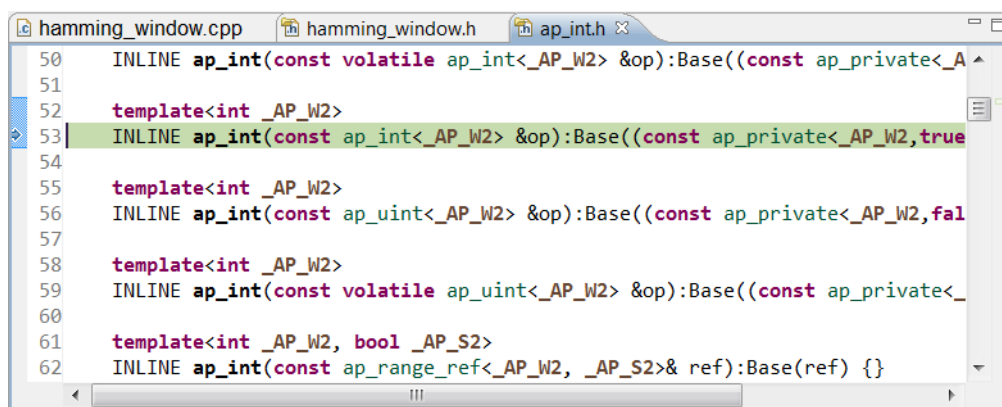

Figure 3-20: Arbitrary Precision Header File
7. Click the **Step Into** button (or press the **F5** key) twice to see the view in Figure 3-20.